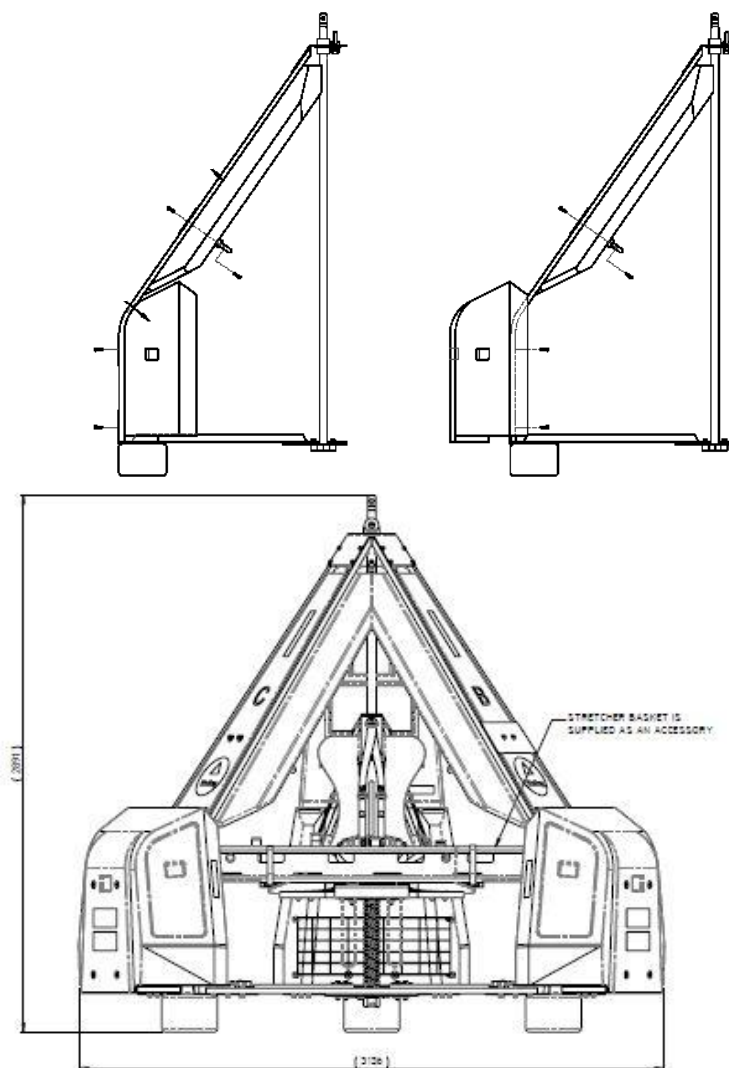

Figure 8: Buoyancy Reconfiguration Diagram
- i. Refer to Figure 8: Buoyancy Reconfiguration Diagram.